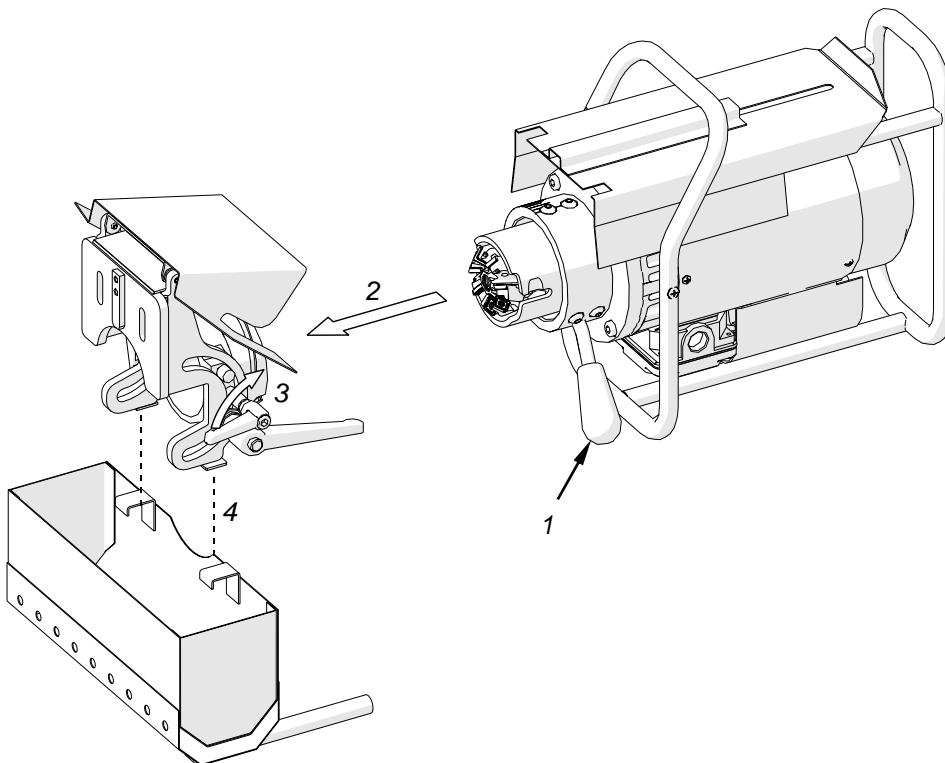

Figure 4. Method of mounting milling unit
Set the lever 1 in the position from Figure 4, insert the milling unit into the support (2), and lock the bevel depth lock lever (3). If the plate is to be machined at the positive angle (from the top), catch the chips container on the brackets (4).
Mount the milling unit in the manner shown in Figure 4.